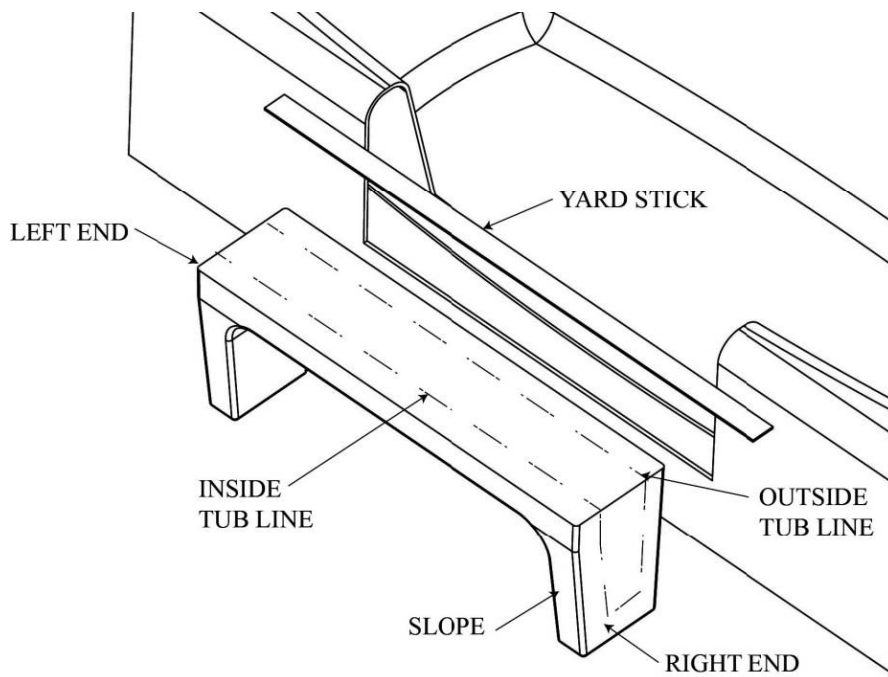

FIGURE 4
- Place the Ultra-Low as shown in Figure 4. Use a tape measure and transfer the shape of the inside of the tub edge to the Ultra-Low. The inside of the tub may be irregular in shape, so measurements for the inside line must be made every 3" from one end of the CleanCut Ultra-Low to the other. Once completed, use your yard stick and marker to connect the markings for the inside line.